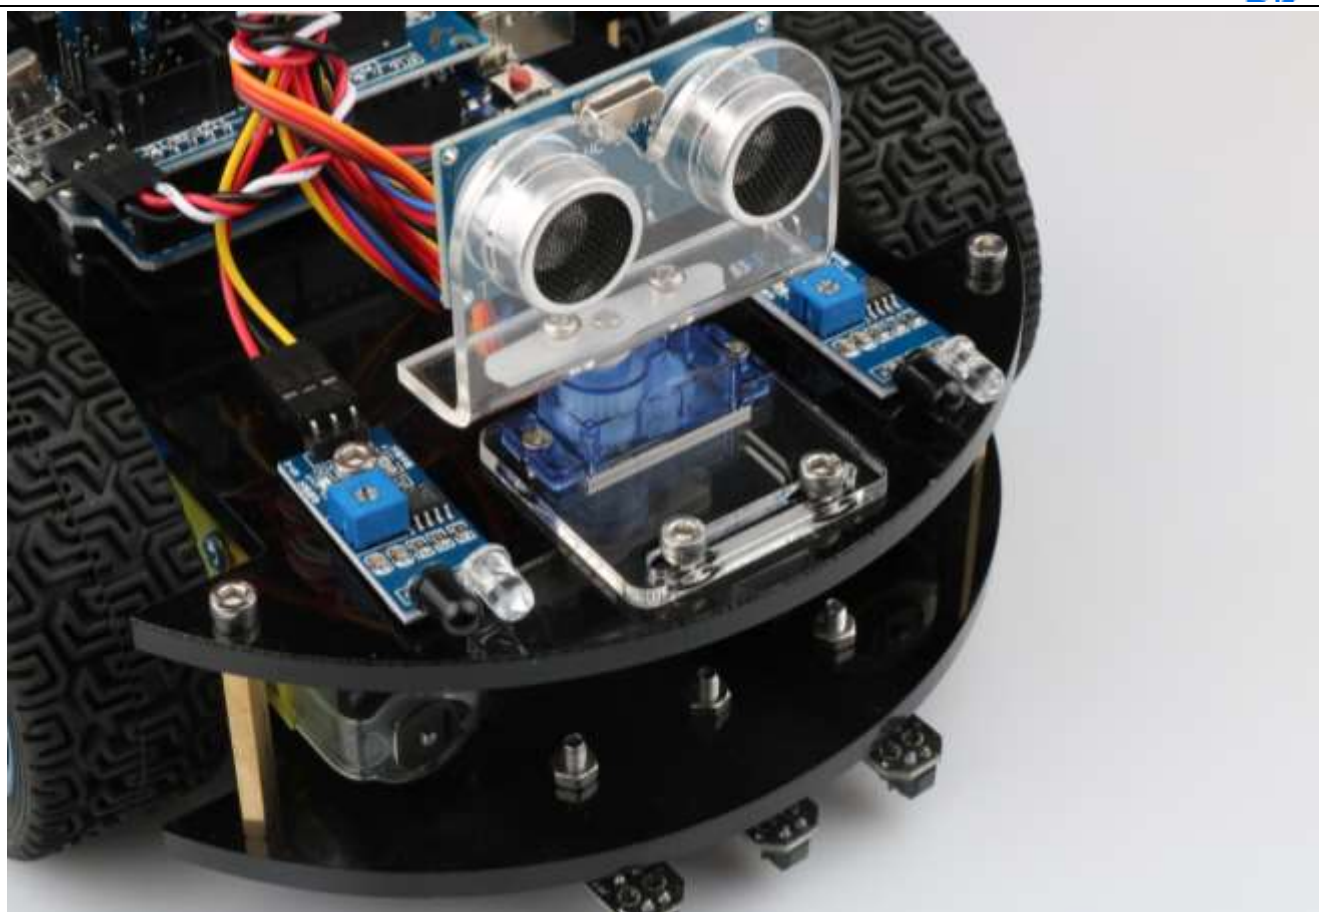

Figure .3.2.31 Installation Diagram of the Steering Gear and Ultrasonic Module
- 1, Installing the steering gear, ultrasonic module to the car which has been completed in fourth step to the seventh step in 3.1.2) as shown in Fig.3.2.31.